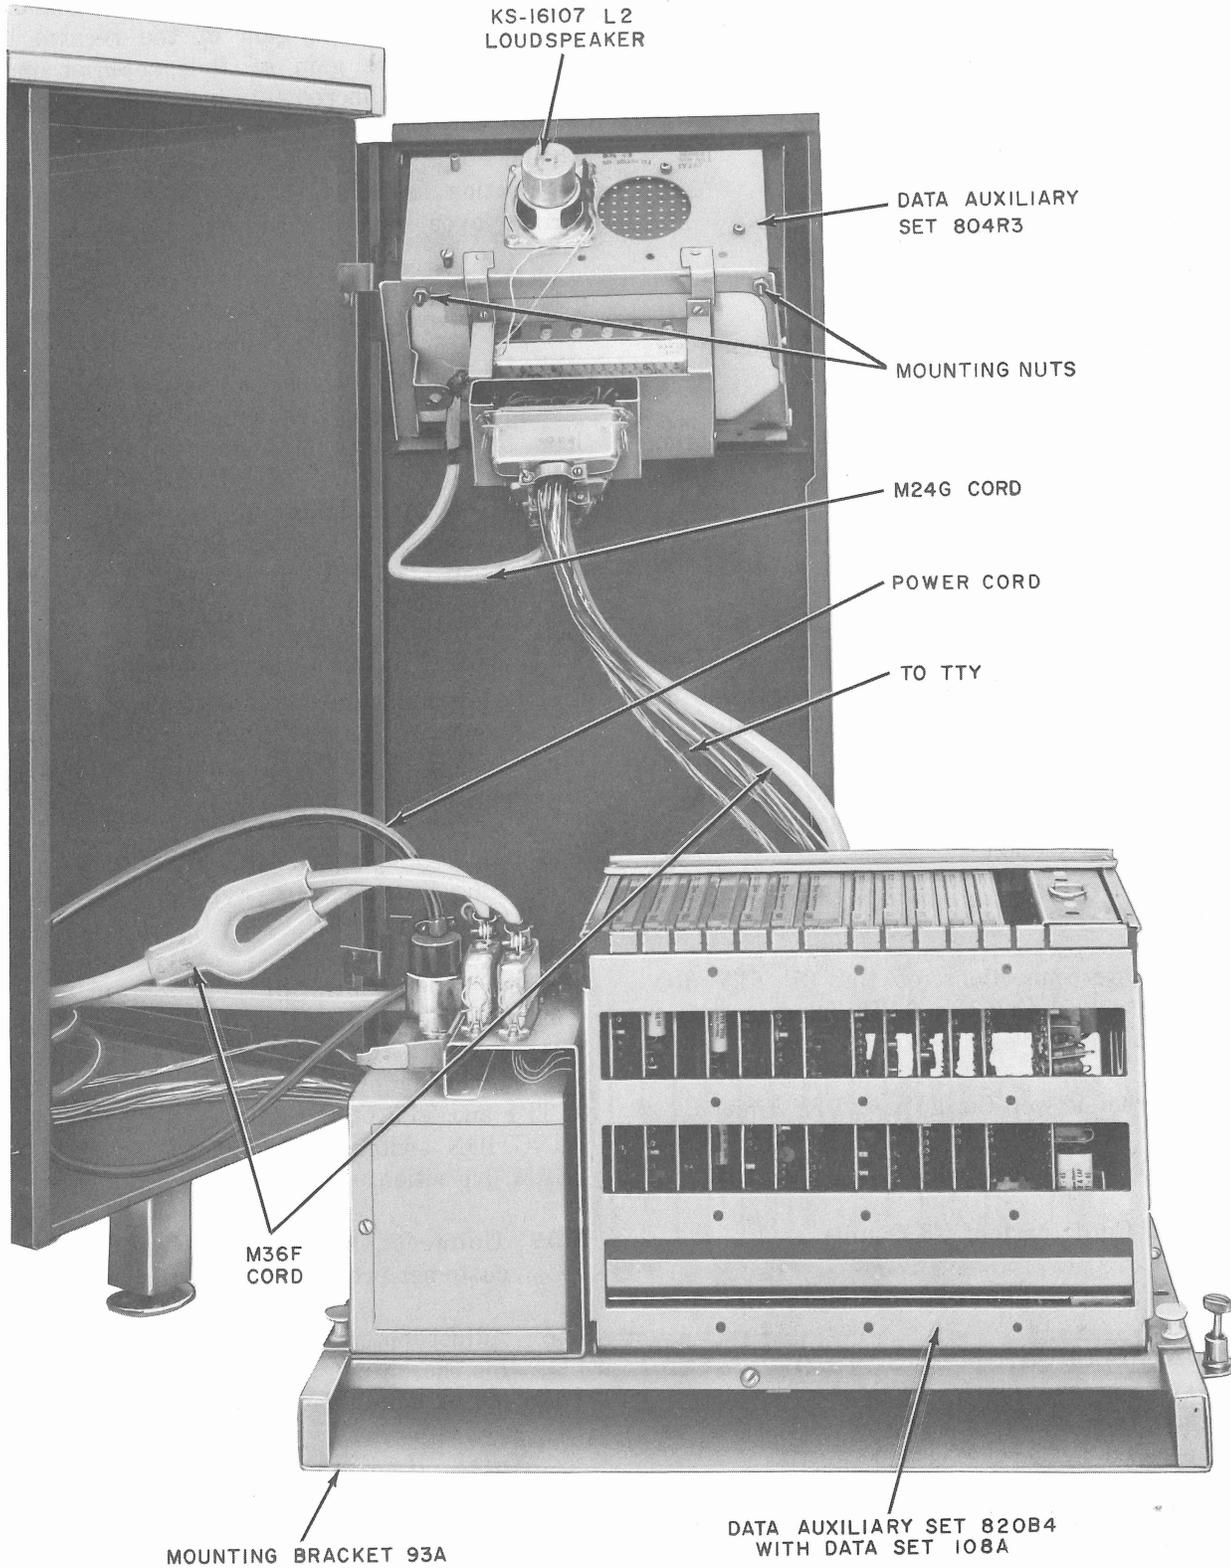

Fig. 1—Model 37 RO TTY With Data Auxiliary Set 820B4 in the Maintenance Position
2.03 To gain access to Data Set 108A- or 109A-type and to Data Auxiliary Set (DAS) 820B4 (Fig. 1), proceed as follows: